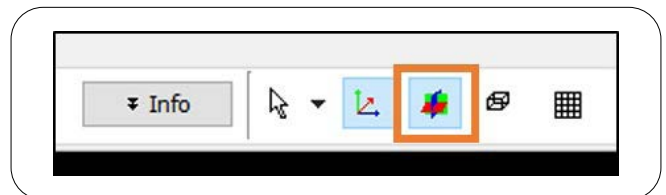

Figure 6: The slice plane tool allows you to center your 2D sagittal, coronal, and axial views to the region of interest.
1. Move all 2D views to your area of interest. Turn on the slice plane tool (Figure 6). Click and drag the planes in the 2D views (shown as red, green, and blue lines) so that the planes are centered on your area of interest.